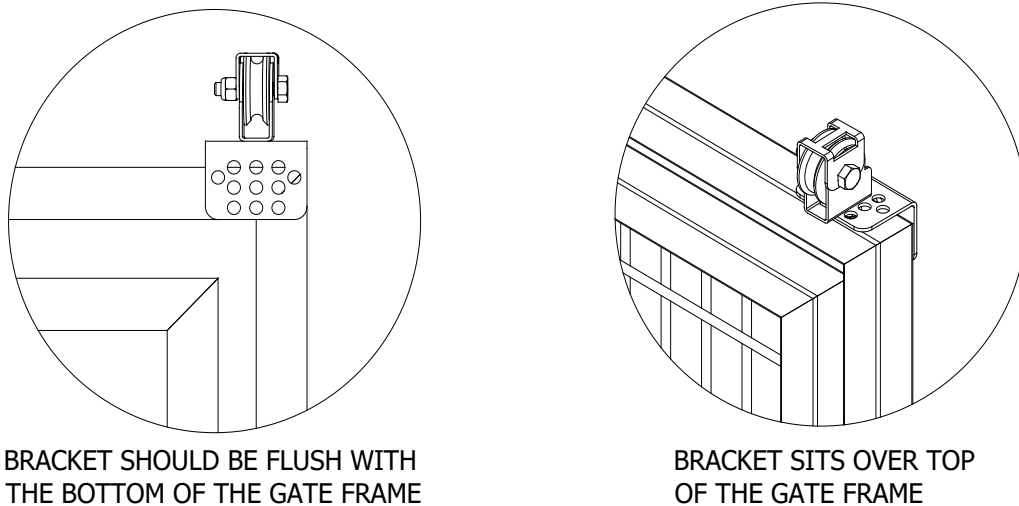

Figure D.2
1. The pulley brackets used at the front of your kennels will be installed upside down from the ones attached above the kenl-dor. Begin by placing the bottom of the bracket (#6724) flush with the bottom of the uppermost frame. When against the frame, the bracket should hang over the top of the gate. See figure D.2